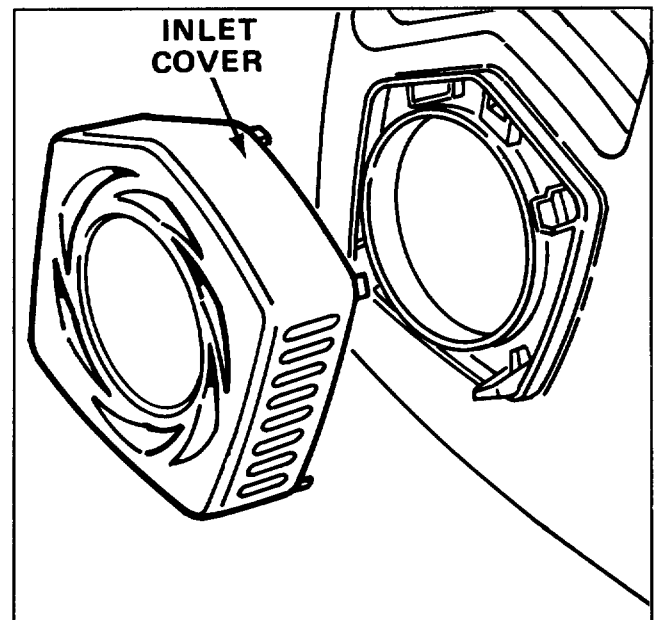

Figure 2
2. Grasp inlet cover and rotate it counterclockwise until locking tabs release. Remove cover (Fig. 2).